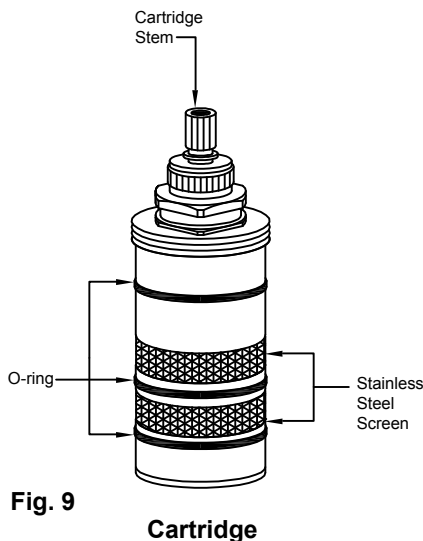

Fig. 9
- 8 Rinse and clean stainless steel screens on cartridge body. (See Fig. 9).